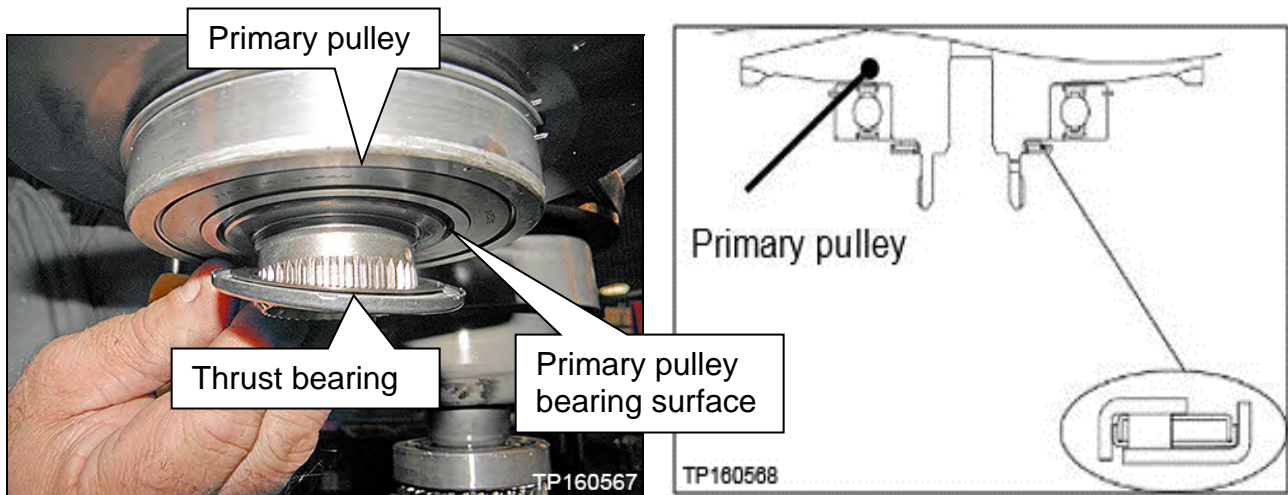

Figure 19E
19. Install the original thrust bearing onto the primary pulley of the new sub-assembly (Figure 19E).
CAUTION: The thrust bearing has two different sides. Reference Figure 19E for correct bearing orientation.
- The thrust bearing must sit flush with primary pulley surface (Figure 19E).